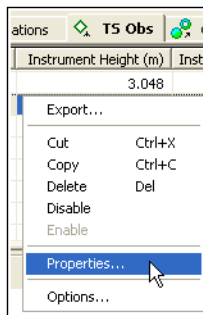

Figure 5-82. Open Properties
- To add a new instrument type to the instrument list or edit a current instrument type, right-click a TS occupation and click **Properties** on the pop-up menu (Figure 5-82).